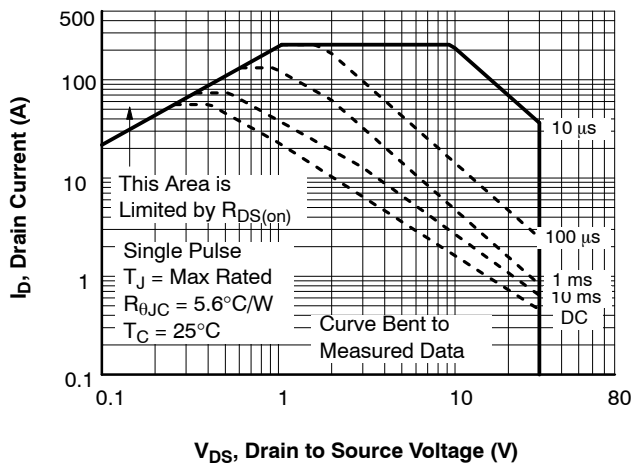
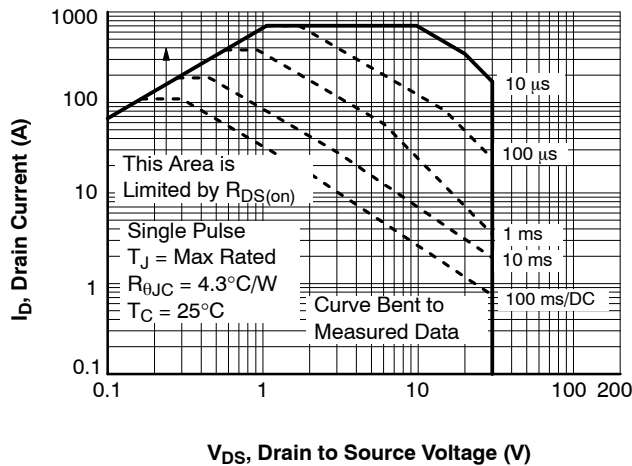

Figure 11. Forward Bias Safe Operating Area
Figure 24. Forward Bias Safe Operating Area
- Pulsed Id refer to Figure 11 and Figure 24 SOA graphs for more details.